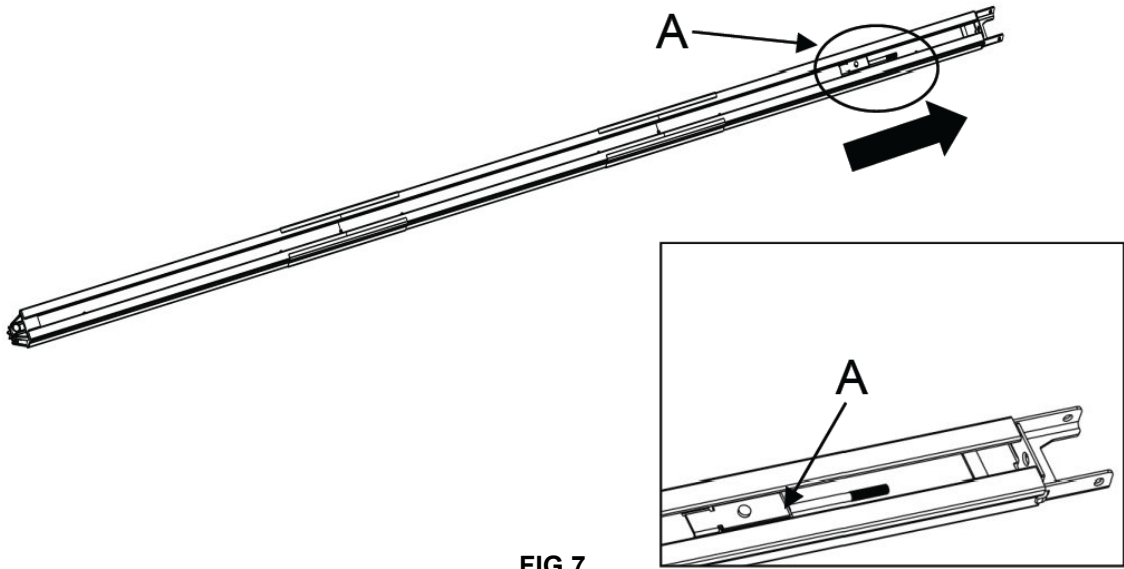

FIG. 7
- As FIG.7, pull the screw rod "A" along with inner chain to the end of top rail ;